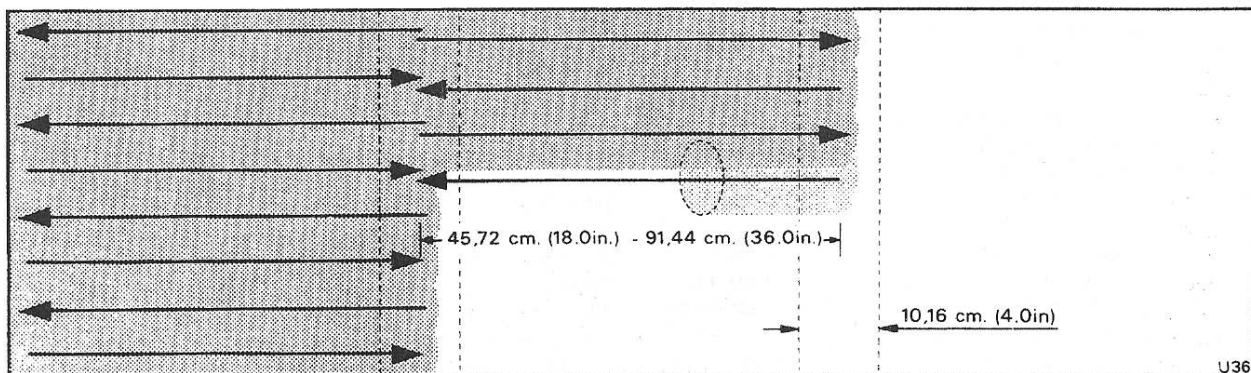

Fig. S71 Manageable distances when spraying long panels
1. **Long work.** A long panel should be sprayed in separate sections between 45,72 cm. and 91,44 cm. (18.0 in. and 36.0 in.) long (see Fig. S71), triggering the gun in the usual manner at the ends of each stroke. Each section should overlap the previous section by approximately 10,16 cm. (4.0 in.).